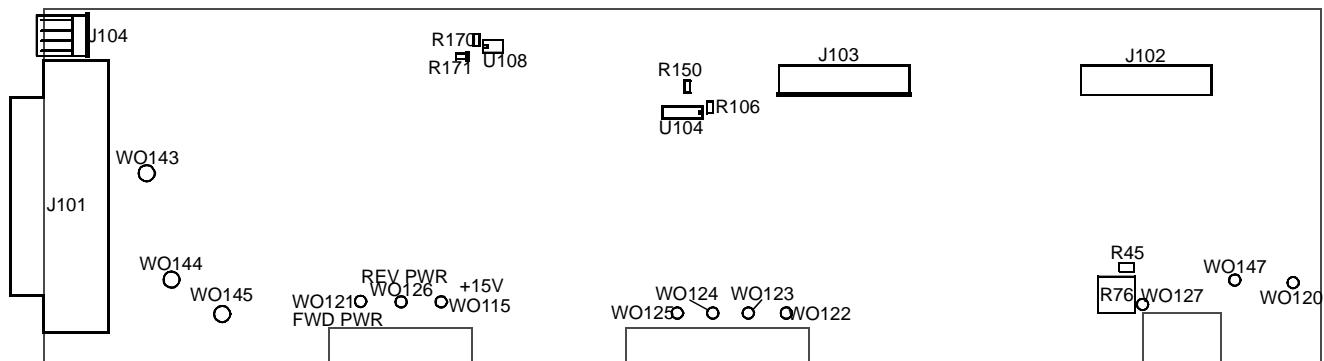

Figure 7-4 RF INTERFACE BOARD ALIGNMENT POINTS
5. Monitor the voltage on R45 on the RFIB and set R76 for 1.3V DC (see Figure 7-4).
3. Monitor the voltage on R45 on the RFIB and set R76 for 1.3V DC (see Figure 7-4). This sets the current limit point for driver Q501 at hot temperatures.
4. Set each of the quiescent currents for Q502 and Q503 for 10 mA (DC) each.
12. Adjust Reverse Power Calibration Pot RV602 for equal voltages on W121 and W126 on the RFIB or for equal Forward and Reverse Power (see Figure 7-4).